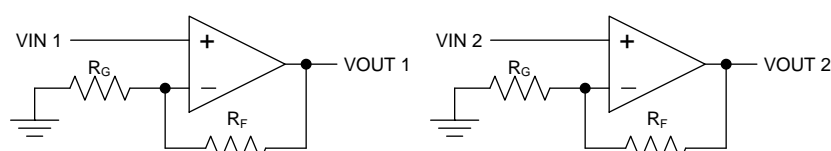

图 40. Schematic Representation for 图 41
- Place the external components as close to the device as possible. Keep R_F and R_G close to the inverting input to minimize parasitic capacitance, as shown in 图 40.